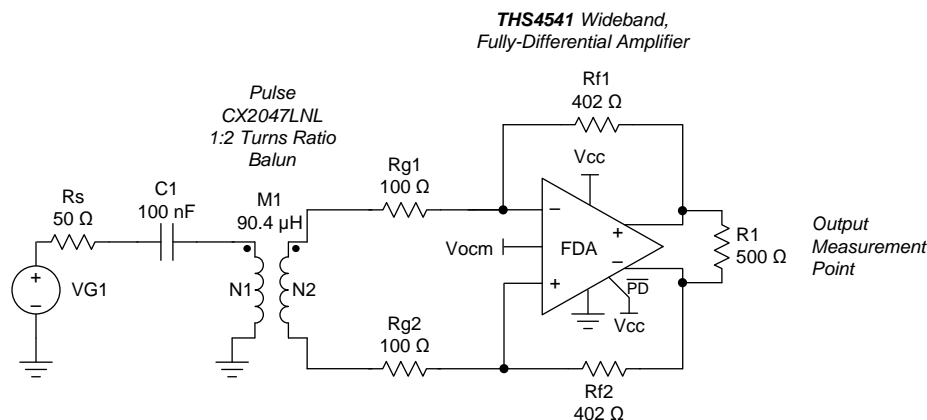
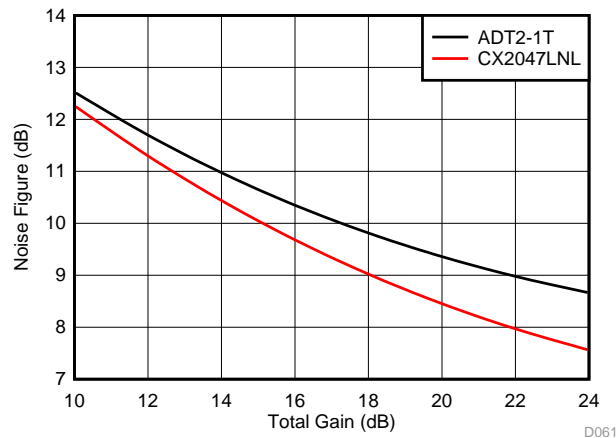

Figure 74. Input Balun Interface Delivers a Differential Input to the THS4541
Figure 75. Noise Figure versus Total Gain with the Two Input Baluns of Table 7
Transformer input coupling allows either a single-ended or differential source to be coupled into the THS4541; possibly also improving the input-referred noise figure. These designs assume a source impedance that must be matched in the balun interface. The simplest approach is shown in Figure 74, where an example 1:2 turns ratio step-up transformer is used from a 50-Ω source.
One way to use Equation 14 is to fix the input balun selection, and then sweep the FDA gain by stepping up the Rf value. The lowest-noise method uses just the two Rg elements for termination matching (no Rm element, such as in Figure 74) and sweep the Rf values up to assess the resulting input-referred noise figure. While this method can be used with all FDAs and a wide range of input baluns, relatively low-frequency input baluns are an appropriate choice here because the THS4541 holds exceptional SFDR for less than 40-MHz applications. Two representative selections, with their typical measured spans and resulting model elements, are shown in Table 7. For these two selections, the critical inputs for the noise figures are the turns ratio and the insertion loss (the 0.2 dB for the CX2014LNL becomes a β = 0.977 in the NF expression).
Using the typical input referred noise terms for the THS4541 ($e_{ni} = 2.2 \text{ nV}$ and $i_n = 1.9 \text{ pA}$) and sweeping the total gain from the input of the balun to the differential output over a 10-dB to 24-dB span, gives the input noise figure shown in Figure 75.
The 50- Ω referred noise figure estimates show a decreasing input-referred noise for either balun as the gain increases through 24 dB. The only elements changing in these sweeps are the feedback-resistor values, in order to achieve the total target gain after the step up from the input balun. The example of Figure 74 is a gain of 7.86 V/V, or a 17.9-dB gain where a 9.0-dB input noise figure is predicted from Figure 75. Another advantage for this method is that the effective noise gain (NG) is reduced by the source impedance appearing as part of the total R_g element in the design. The example of Figure 74 operates with a $NG = 1 + 402 / (100 + 100) = 3 \text{ V/V}$, giving greater than 300-MHz SSBW in the THS4541 portion of the design. Combining that with the 372 MHz in the balun itself gives greater than 200 MHz in this 18-dB gain stage; or an equivalent greater than 1.6-GHz gain bandwidth product in a low-power, high dynamic range interface.
Added features and considerations for the balun input of Figure 74 include: